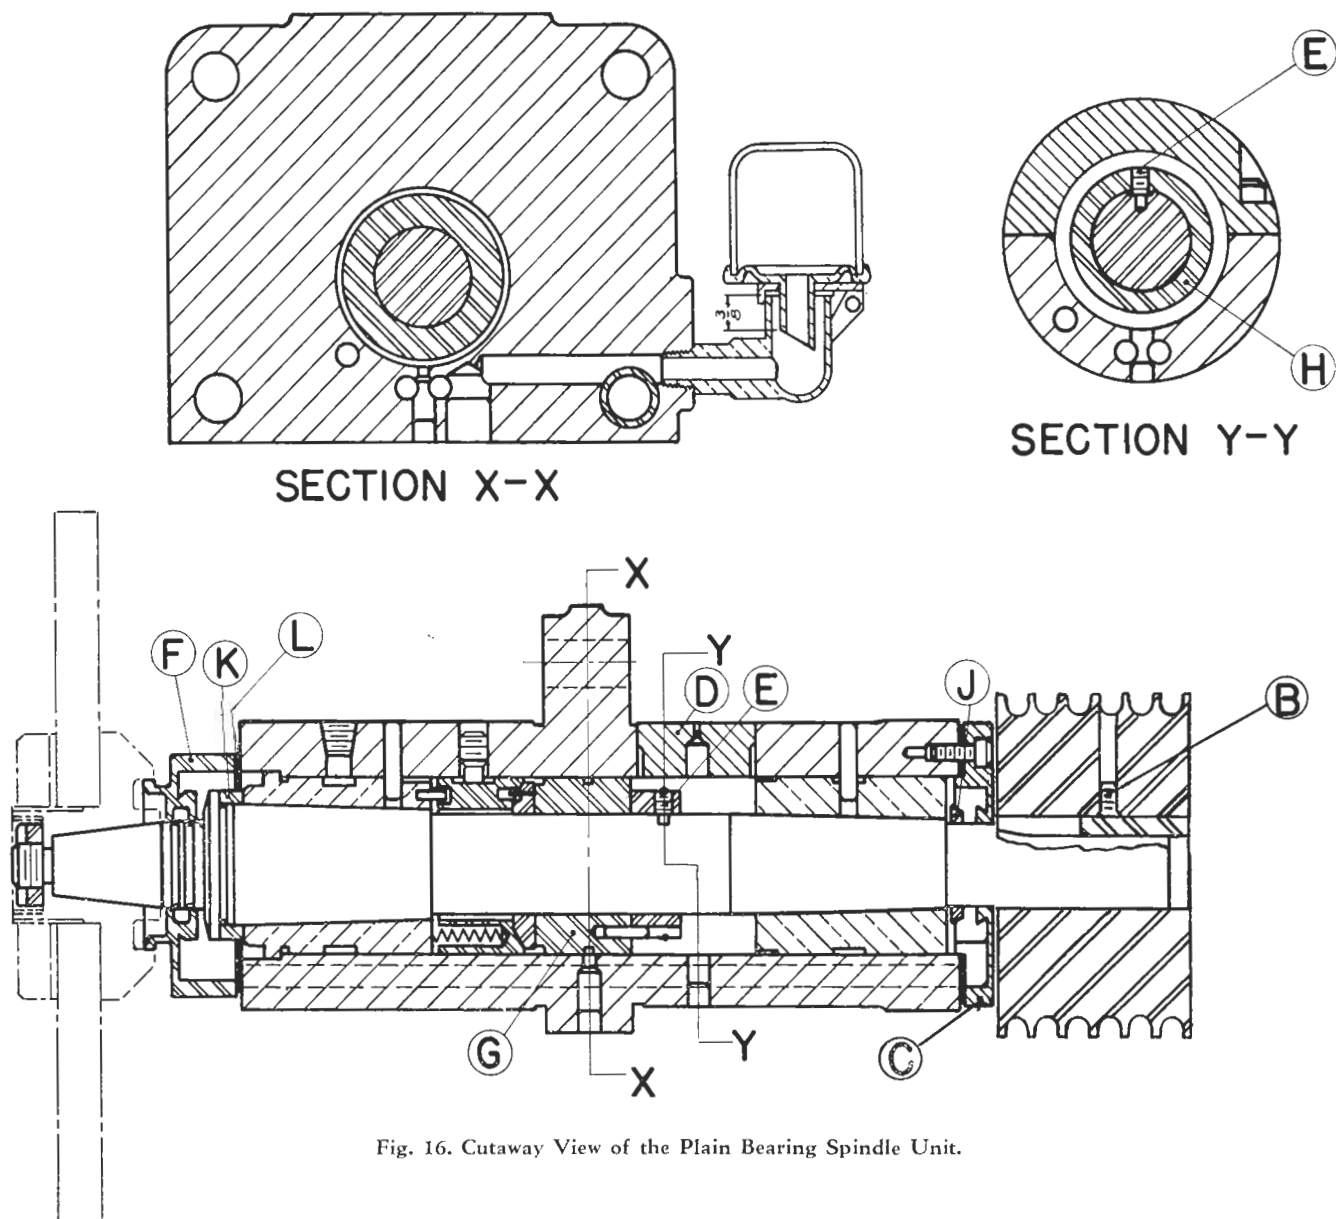

Fig. 16. Cutaway View of the Plain Bearing Spindle Unit.
Lubrication. Automatic lubrication is provided by a rotating pump unit integral with the spindle. A constant level oiler (Fig. 16) supplies oil to a reservoir in the spindle unit.
Correct Height of Oiler. To assure proper height of oil in the spindle reservoir, the vertical distance from the shorter side of the diagonally-cut spout to the top edge of the cup (with bottle swung down) must be $\frac{3}{8}$ " (see Fig. 16).
1. Take out the screw B (Fig. 16) that holds the driving pulley on the spindle.
2. Remove the spindle dust guard C (Fig. 16).
1. Put the front box thrust washer K on the spindle and insert the spindle in the boxes, slipping the thrust spring retainer (with springs in place), the central thrust washer and the thrust collar H onto the spindle in that order as shown in Fig. 16.